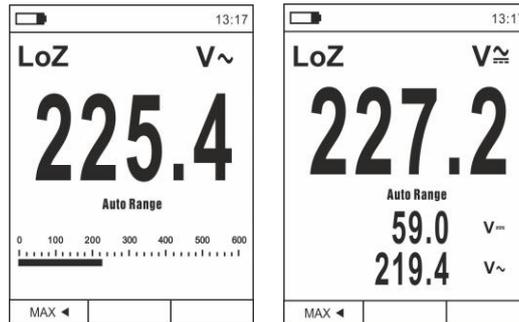

Fig. 10 Description of LoZ voltage measurement
2. Press key **MODE/VFD** by selecting modes " $V\sim$ " or " $V\approx$ " (see Fig.10)